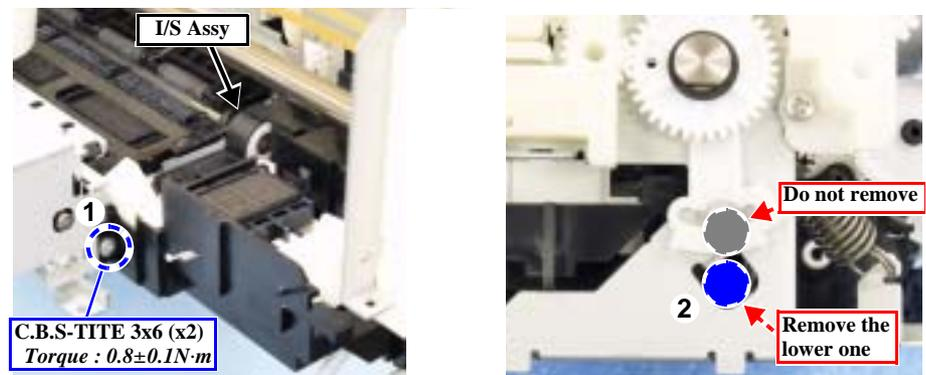

Figure 4-54. Removing the I/S Assy
3. Remove the screws (x2), and remove the I/S Assy. (Fig. 4-54)
- Tighten the screws in the specified order. (Fig. 4-54)